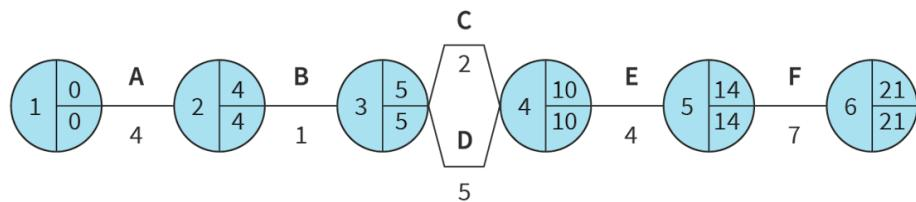

Figure 3. Adding latest finish times to the critical path (network) diagram for Project X.
The earliest start time (EST) indicates the earliest time that a task can begin. It is written in the upper right segment of the node and refers to the task just after the node, as shown in **Figure 3**.
**Figure 3** shows that task A is the first task of Project X. It can start immediately, so 0 is written in the upper right segment of the node to the left of task A. Then, working from left to right you can see that:
In **Figure 3**, the last node shows the end of Project X. The project should be completed in 21 days. This number is written in both the upper right and lower right segments of the last node. The lower right segment of the node refers to the latest finish time (LFT) that the preceding task should finish in order to keep Project X on track.
More information for figure 3
Now, this time working from right to left, you can insert the latest finish times to each of the previous nodes and see that (as shown in **Figure 3**):